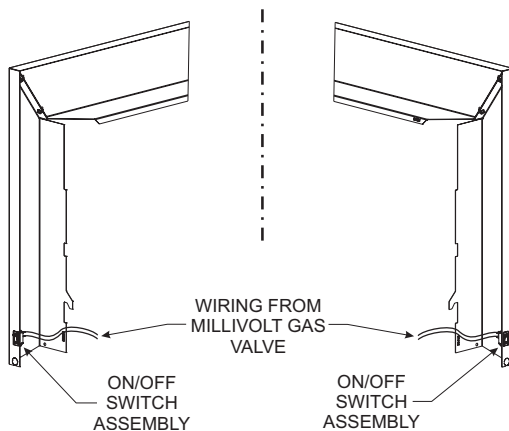

Figure 13
3. Run the low voltage alternate switch wires up the back of the right or left surround panel. Then secure the wires with wire clips provided. **See Figure 13.**